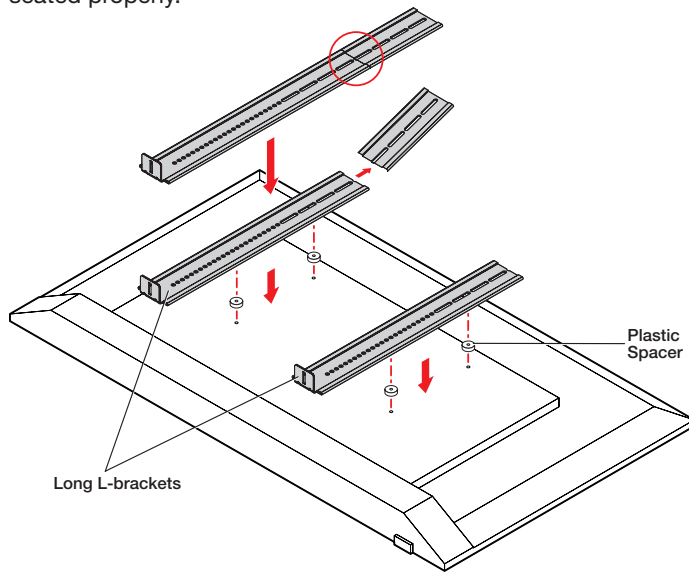

Figure 1. Installing Long L-Brackets
NOTE: The long L-brackets are designed to accommodate a variety of display heights. If the bracket is exposed over the top of the display, the top 8" (203 mm) of the SMK V SB 33 Plus long L-bracket can be broken off. To do this, simply bend the top breakaway portion back at the seam until it breaks off. (see figures 1 and 2 for details).
- Insert bolts through the VESA display mounts, the long L-brackets, and the display. Be sure to align the bolt holes of the VESA display mounts with the display mounting holes and insert the bolts. Hand tighten all 4 bolts. Spacers are provided if needed (see figure 1 on the previous page).